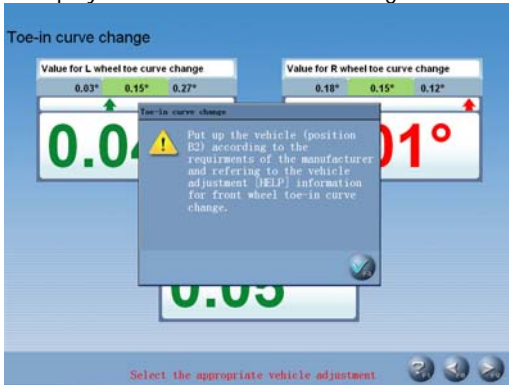

Fig.4.29
- Put up the vehicle (to position B2) according to the requirements of the manufacturer. The screen display the interface as shown in Fig.4.29: